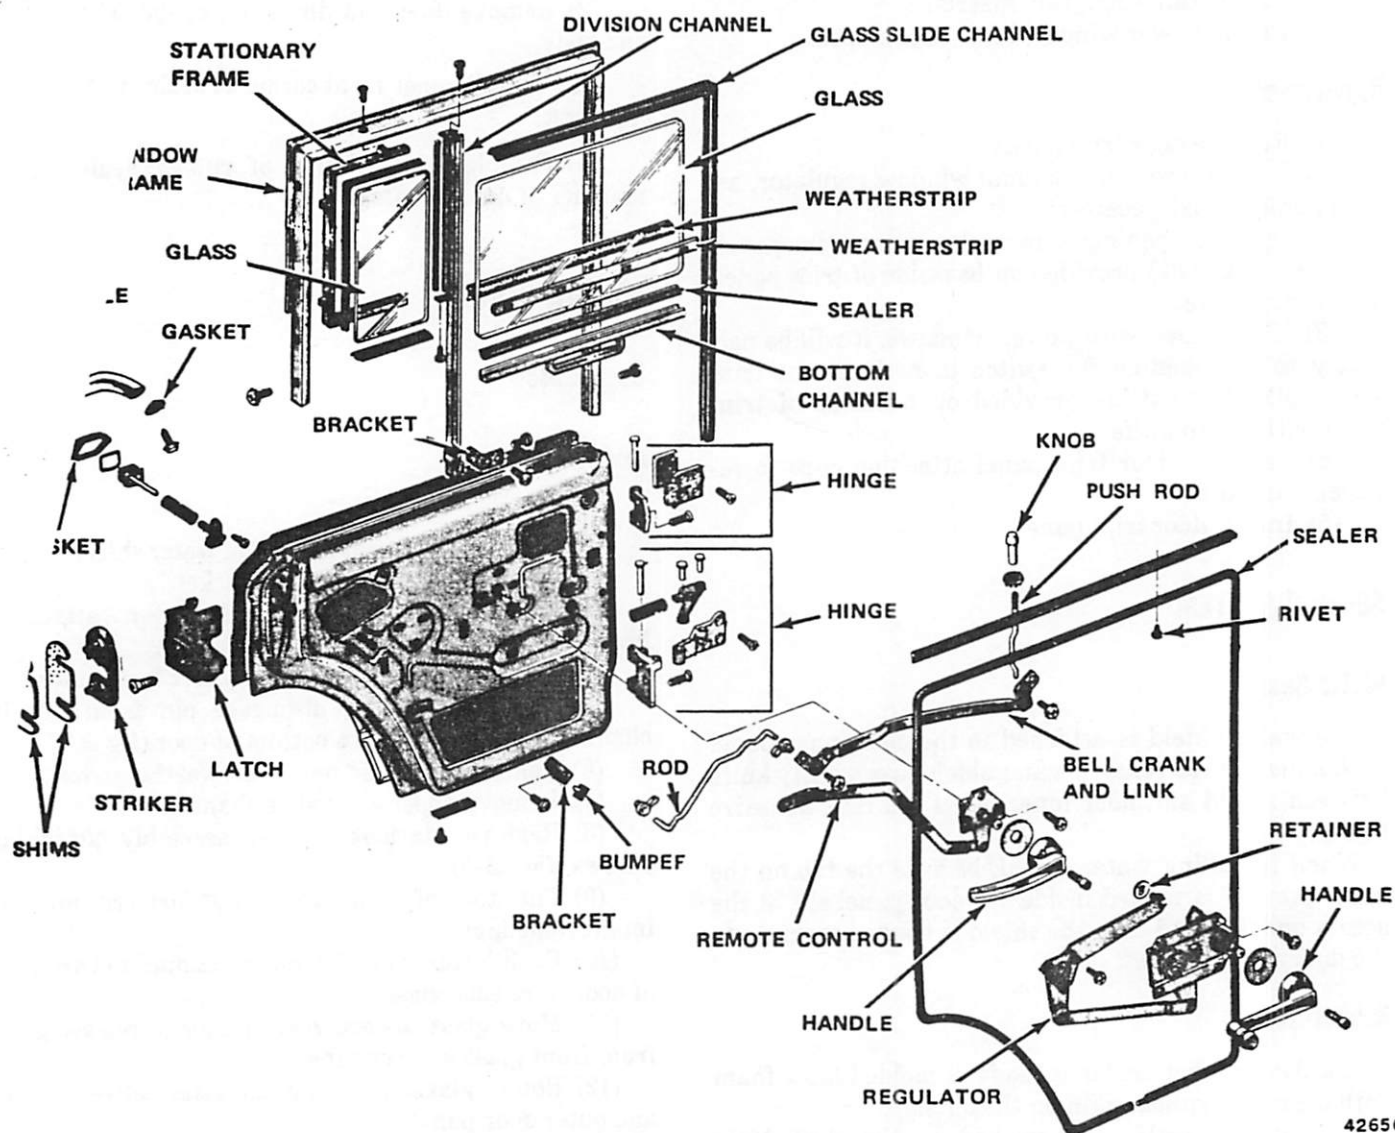

Fig. 3J-5 Rear Door—Cherokee-Wagoneer Models
- (1) Remove door trim panel and water shield.
- (2) Remove glass down stop bracket.
- (3) Remove division channel lower attaching bracket.
- (4) Lower door glass to obtain access to retainer.
- (5) Remove retainer, disengage pin from slot in channel and lower glass to bottom of door (fig. 3J-5).
- (6) Remove inner and outer belt weatherstrips.
- (7) Remove upper glass slide channel.
- (8) Remove stationary vent assembly attaching screws (fig. 3J-5).
- (9) Tilt top of vent assembly forward approximately one inch.
- (10) Push lower end of division channel toward rear of door to release glass.
- (11) Move glass toward rear of door to release glass from front glass slide channel.
- (12) Rotate glass 90° and guide glass between inner and outer door panels.